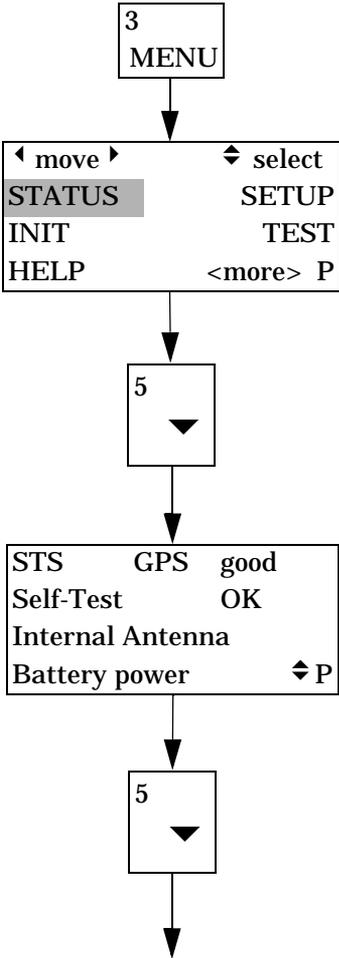

Figure 3-14 Accessing the Status Displays.
3.8.1 Accessing the Status Displays. The status display is accessible via the *MENU* key, as shown in Figure 3-14.